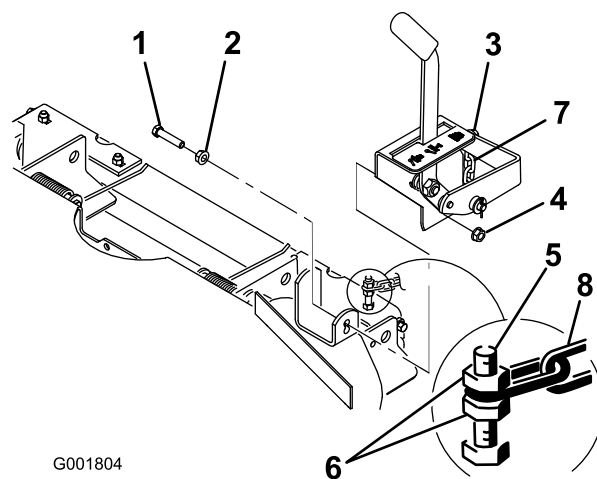

Figure 3
2. Install the control lever assembly onto the bracket you removed the chain from, securing it and the deck mounting chain with a bolt (7/16 x 2 inches) and 2 flange nuts (7/16 inch) (Figure 3).
3. Thread a locknut (3/8 inch) onto the bolt on the left of the roller assembly (Figure 3).
securing the chain between the locknuts near the top of the bolt (Figure 3).